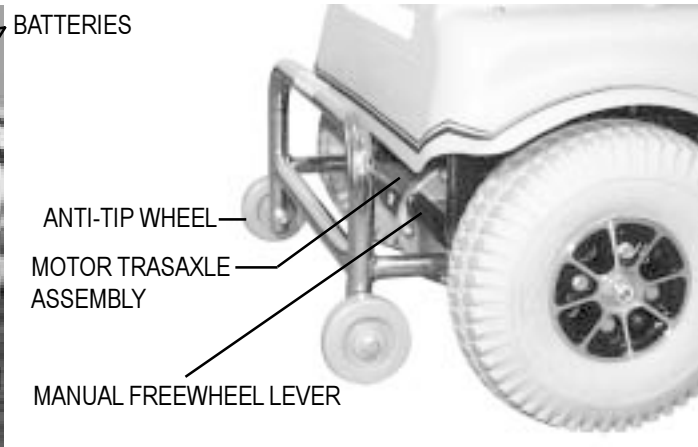

FIGURE 8A. REAR SECTION
- The manual freewheel lever is located on the end of the motor/transaxle assembly at the right rear of the Shuttle. See figure 8A.
The anti-tip wheels are an integral and important safety feature of your Shuttle. Do not, under any circumstances, remove the anti-tip wheels from your Shuttle. See figure 8A.